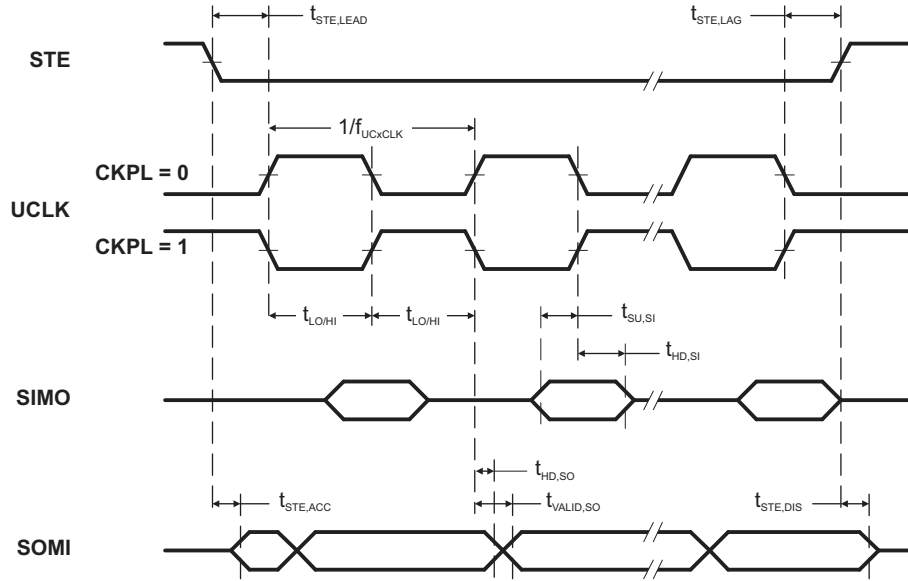
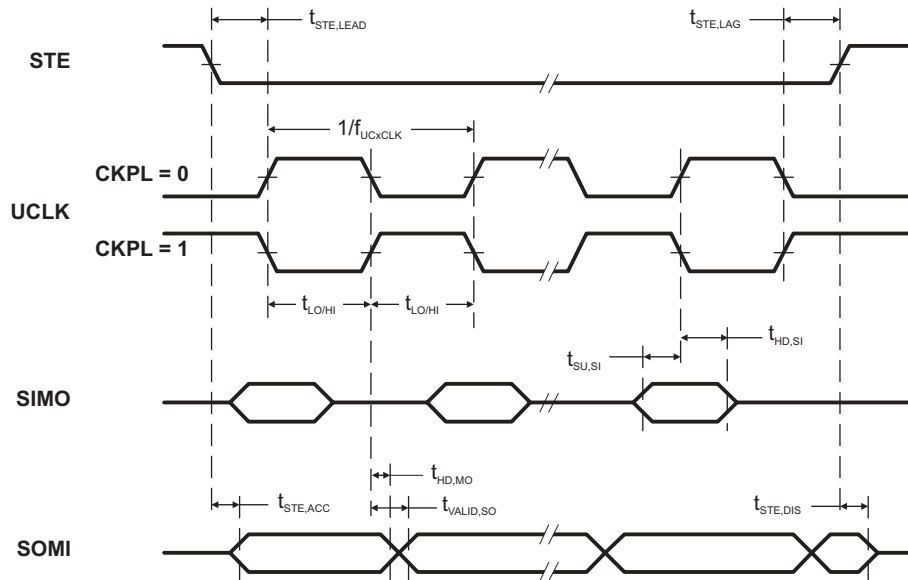

Figure 7-13. SPI Slave Mode, CKPH = 0
Figure 7-14. SPI Slave Mode, CKPH = 1
(see Figure 7-13 and Figure 7-14)
(2) Specifies the time to drive the next valid data to the SOMI output after the output changing UCLK clock edge. See the timing diagrams in Figure 7-13 and Figure 7-14.
(3) Specifies how long data on the SOMI output is valid after the output changing UCLK clock edge. See the timing diagrams in Figure 7-13 and Figure 7-14.